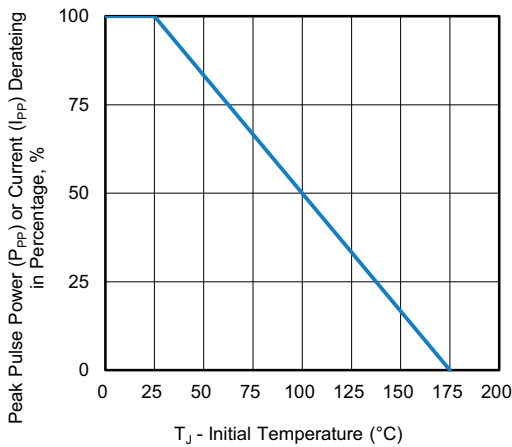
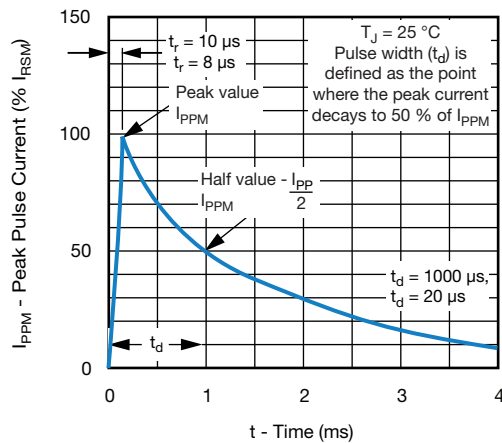

Fig. 2 - Pulse Power or Current vs. Initial Junction Temperature
Fig. 3 - Pulse Waveform
(1) Non-repetitive current pulse, per fig. 3 and derated above $T_A = 25^\circ\text{C}$ per fig. 2.